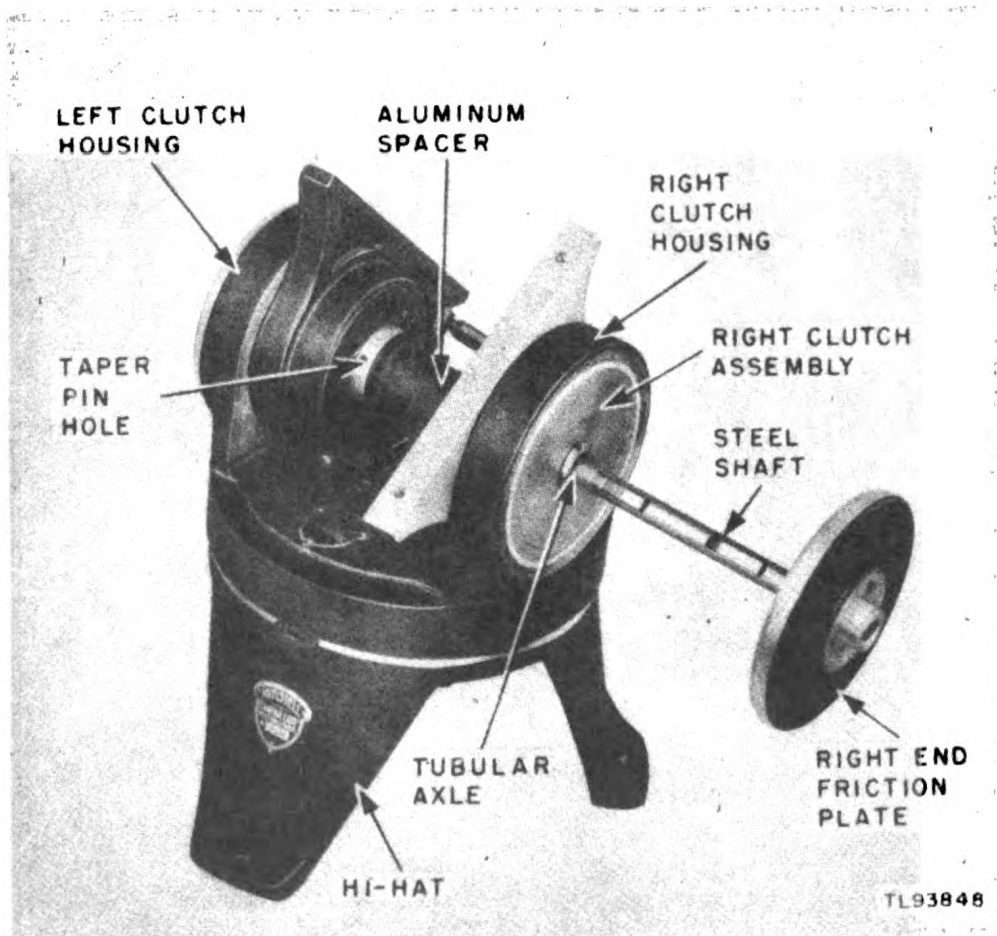

Figure 141. Steel shaft partially removed from tripod assembly.
83. Replacing Tripod Head Steel Clutch Plates, Fiber Disks, Friction Plate, and Steel Axle (fig. 141).